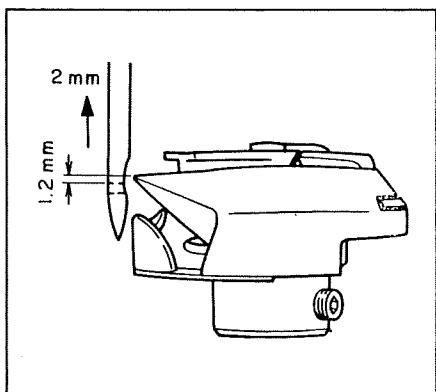

Fig. 21A
#### (1) Timing of the needle and the sewing hook (Fig.21A & 21B)
- When the needle has gone up 2mm( $5/64''$ ) from it's bottom dead point, the timing of the needle and the sewing hook is as shown in Fig.21A.
- The hook point must point at a higher level by 1.2mm( $3/64''$ ) than the top edge of needle eye as shown in Fig.21A.